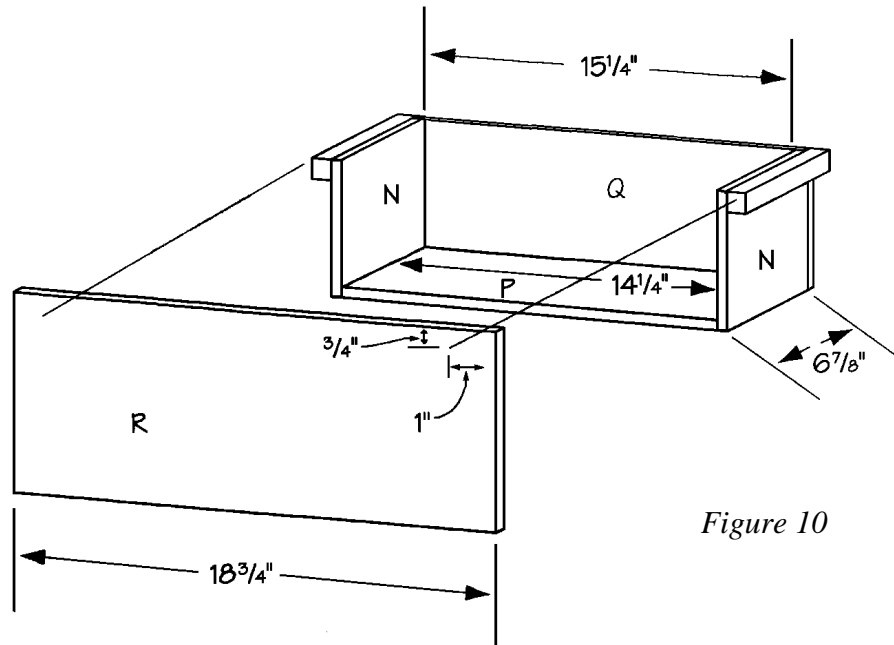

Figure 10
4. Repeat Step 3 to attach the remaining drawer glide (O) to the other drawer side (N). The 3/8" extension should be a mirror image of the one in Step 3.
5. Cut one drawer bottom (P) from 3/8" exterior plywood, measuring 14-1/2 x 6-7/8 inches.
6. Cut one drawer back (Q) from 3/8" exterior plywood, measuring 15-1/4" x 5".
7. Assemble the drawer bottom (P), drawer sides (N), and drawer back (Q), as shown in *Figure 10*, fitting the drawer back (Q) over the ends of the sides (N), and the drawer bottom (P) flush with the bottom edges of the drawer sides (N). Nail through the drawer sides (N) and drawer back (Q) into the edges of the drawer bottom (P). Use 1"-long finishing nails spaced about 3" apart.
8. Cut one drawer front (R) from 1 x 8 pine, measuring 18-3/4" long.
9. Rout the edges of the drawer front (R) with a round-over bit (optional) or simply sand the edges to slightly round them.
10. Attach the drawer front (R) to the drawer assembly. Center the drawer front (R) so that it is 3/4" above the drawer assembly at the top and extends 1" beyond each of the drawer glides (O), as shown in *Figure 10*. Nail through the drawer front into the ends of the drawer sides (N), drawer bottoms (P), and drawer glides (O), using 1-1/2"-long finishing nails. Use two nails on each joint.